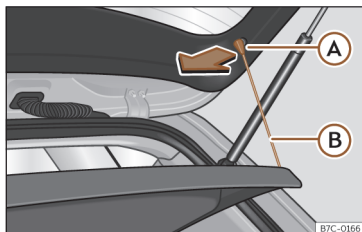

Fig. 134 In the luggage compartment: removing and fitting the shelf.
- Detach the cord loops >>> **Fig. 134** (B) from their hooks (A).
- Hook the loops >>> **Fig. 134** (B) to the rear lid.